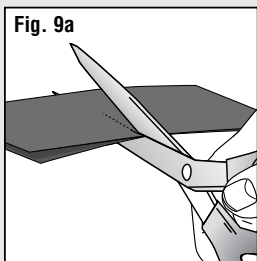

Fig. 9a
- Lay the two sheets of Blackout Paper on top of each other, then cut a notch half-way up the paper. (Fig. 9a)